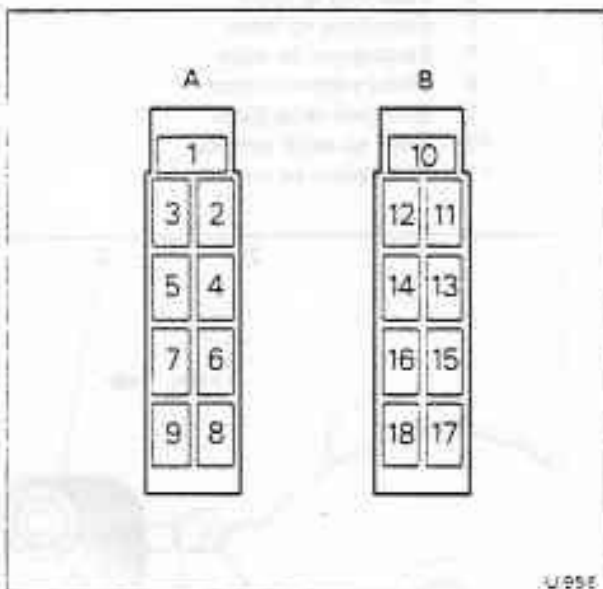

Fig. T5-6 Loom plug connections
21. Check the inside edges of the conduit elbow (tunnel connection) are free of burrs. Feed the loom through the conduit and elbow; push the conduit over the cable exit connection of the casing and the conduit elbow, secure both ends with spring clips. Remove the tape from the cable ends; connect the cables into the plugs (see fig. T5-6).